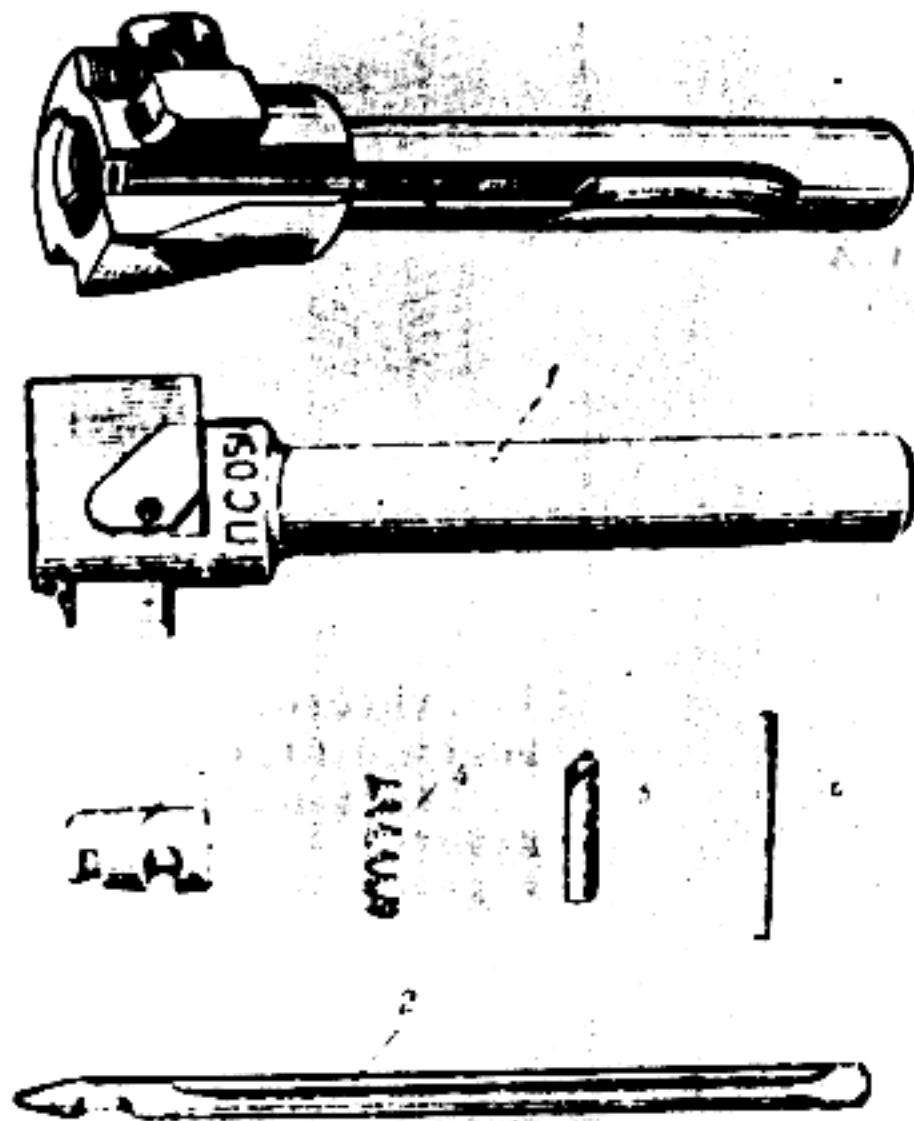

Figure 23. Bolt, assembled and disassembled (assy. 3-2).
The bolt (fig. 23) serves to push the rounds into the chamber, seal the bore and extract the cartridges cases from the chamber.
The firing pin is prevented from falling out of the body by pin (6) (fig. 23), by means of the notch (3) in the firing pin.
The extractor with spring is installed in the bolt head by means of pin (3). The extractor pin is prevented from falling out of its hole by pin (6) (see fig. 23) and the shoulder in the hole for the pin.